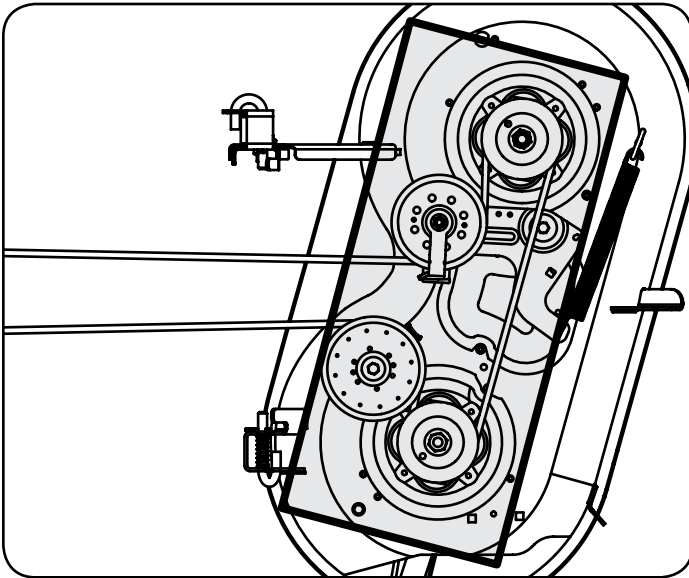

Figure 21
- Clean the top of the mower deck, under the spindle covers and belt area. See Figure 21.